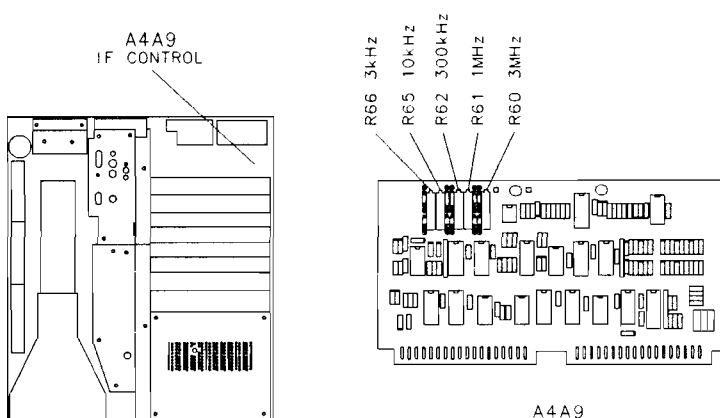

Figure 3-45. Location of 3 dB Bandwidth Adjustments
7. Adjust A4A9R60 3 MHz for a MARKER Δ indication of $-3.00 \text{ dB} \pm 0.05 \text{ dB}$. See Figure 3-45 for location of adjustment.